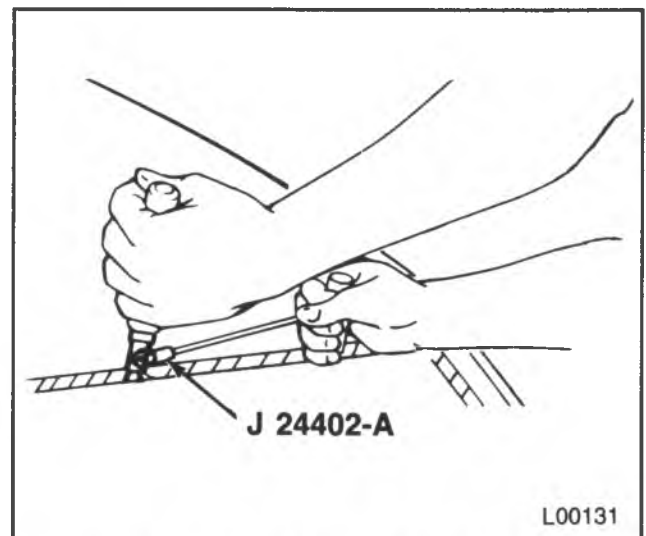

Figure 11 — Cutting the Glass from the Adhesive
- Use J 24402-A to cut the glass from the urethane adhesive. Keep the cutting edge of the knife against the glass, and cut the sealant from the windshield (figure 11).